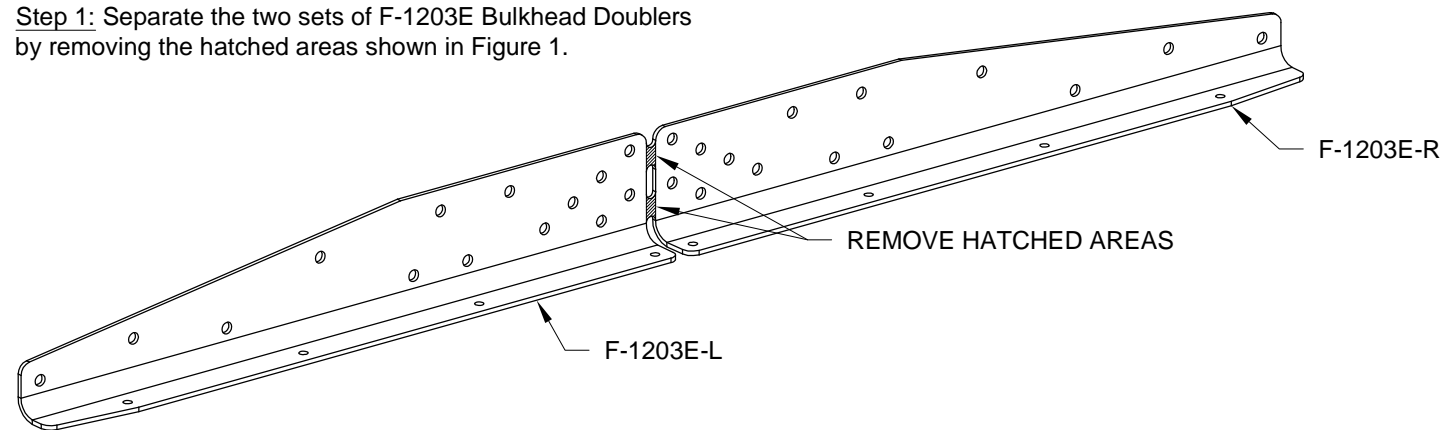

FIGURE 1: F-1203E BULKHEAD DOUBLER
Step 1: Separate the two sets of F-1203E Bulkhead Doublers by removing the hatched areas shown in Figure 1.